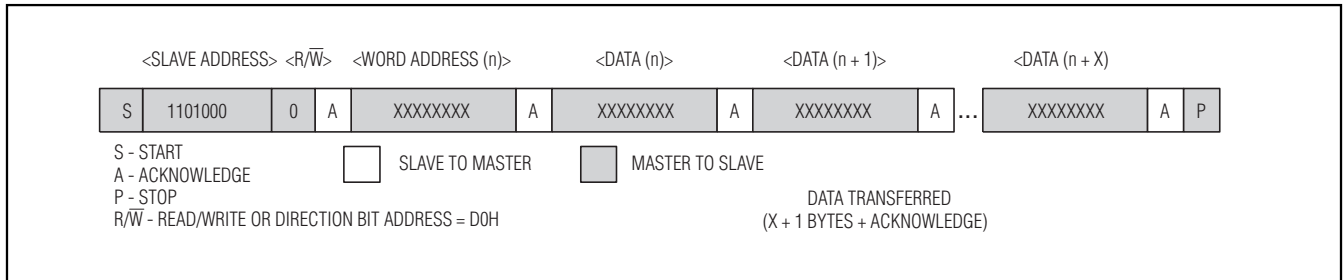

Figure 3. Data Write—RTC Slave Receiver Mode
1) Slave receiver mode (DS32x35 write mode): Serial data and clock are received through SDA and SCL. After each byte is received an acknowledge bit is transmitted. START and STOP conditions are recognized as the beginning and end of a serial transfer. Address recognition is performed by hardware after reception of the slave address and direction bit (see Figures 3, 5, and 7). The slave address byte is the first byte received after the master generates the START condition. The slave address byte contains one of the 7-bit DS32x35 addresses. The slave address is 1101000 for the RTC. For the DS32B35 FRAM, the first four bits are 1010, and the next three bits select one of eight blocks of data (see Table 2). For the DS32C35 FRAM, the first seven bits are 1010000. Each slave address is followed by the direction bit (R/\bar{W}), which is zero for a write. After receiving and decoding the slave address byte, the device outputs an acknowledge on the SDA line. After the device acknowledges the slave address and write bit, the master transmits a register address to the device. For the DS32C35, the master transmits two bytes for the register address information. This sets the register pointer on the device. After setting the register address, the master then transmits zero or more bytes of data with the DS32x35 acknowledging each byte received. The master generates a STOP condition to terminate the data write.